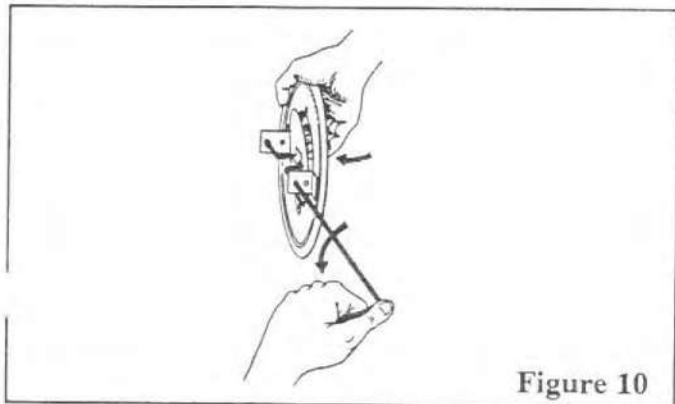

Figure 10
**STEP 3:** Grasp the outside air gate as shown in Figure 10. To thread it properly into the case, the handle must be turned beyond its normal operating position. Push the upper edge of the blade inward past the stop and rotate the handle until it points straight down.